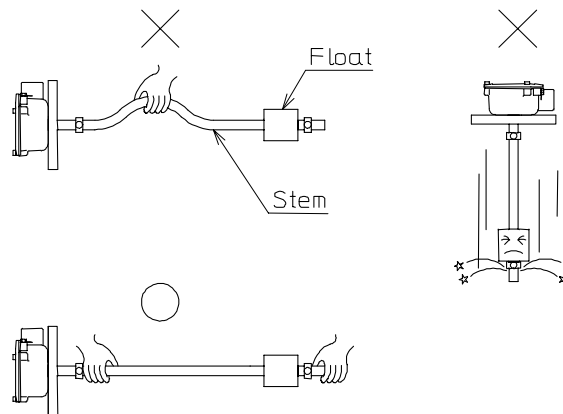

Fig. 8
- (1) Do not carry the sensor with one hand, use both hands to protect the long stem from bending. (See Fig. 8)
- (2) Hold the float not hit the stopper or flange. Otherwise, the magnet inside the float will be cracked. (See Fig. 8.)